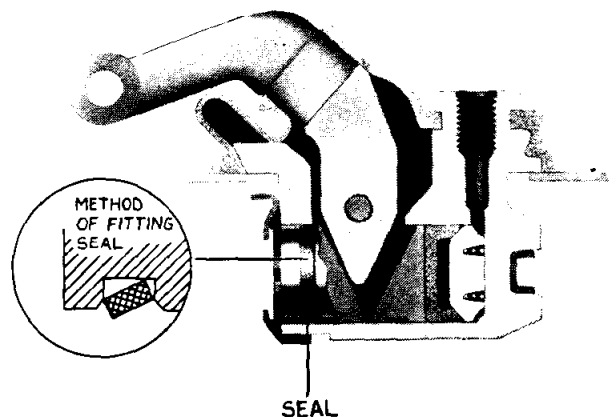

Fig. 7 Sectional view of Rear Wheel Cylinder.
32. TO ASSEMBLE REAR WHEEL CYLINDER (Fig. 7)